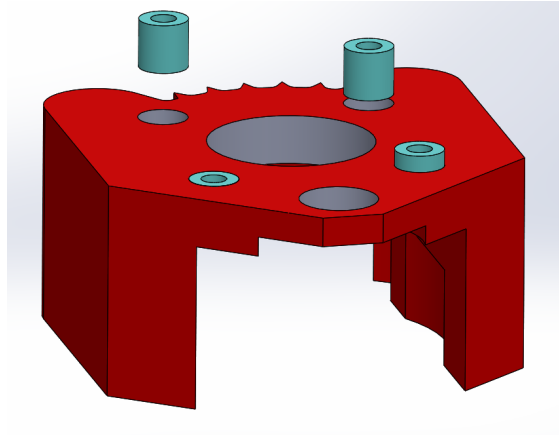

Figure 4: Shaft coupler installation
4. **Encoder Mount:** The size and tolerance of the holes will vary slightly based on different 3D printers and materials. Press the 0.25 inch spacers **T1** into the 3D printed encoder mount **S31**. If they do not fit easily, tapping them with a small hammer may help. If the wholes are still too small, you can drill or file out the holes slightly until the spacers fit as shown in Figure 4.